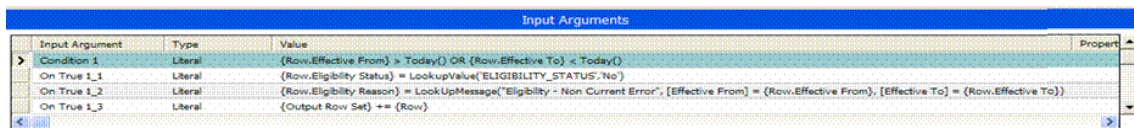

Figure 19. Example of Conditions and Actions for a PSP Procedure
Conditions and actions for each step are entered as input arguments in Siebel Workflow's Process Designer in Siebel Tools, as shown in an example in Figure 19:
- You can specify multiple actions for one condition by using a different index number for the condition name. In the Figure 19 example, there are multiple actions for the On True 1 condition, with the condition name On True 1_1, On True 1_2, and On True 1_3.
- Some Row Set Transformation Toolkit business service methods can include one or more Boolean conditions to which the other conditions refer. In the Figure 19 example, Condition 1 is a Boolean condition which checks the values in the Effective From and Effective To fields. The conditions On True 1_1, On True 1_2, and On True 1_3 are true if this Boolean condition is true.